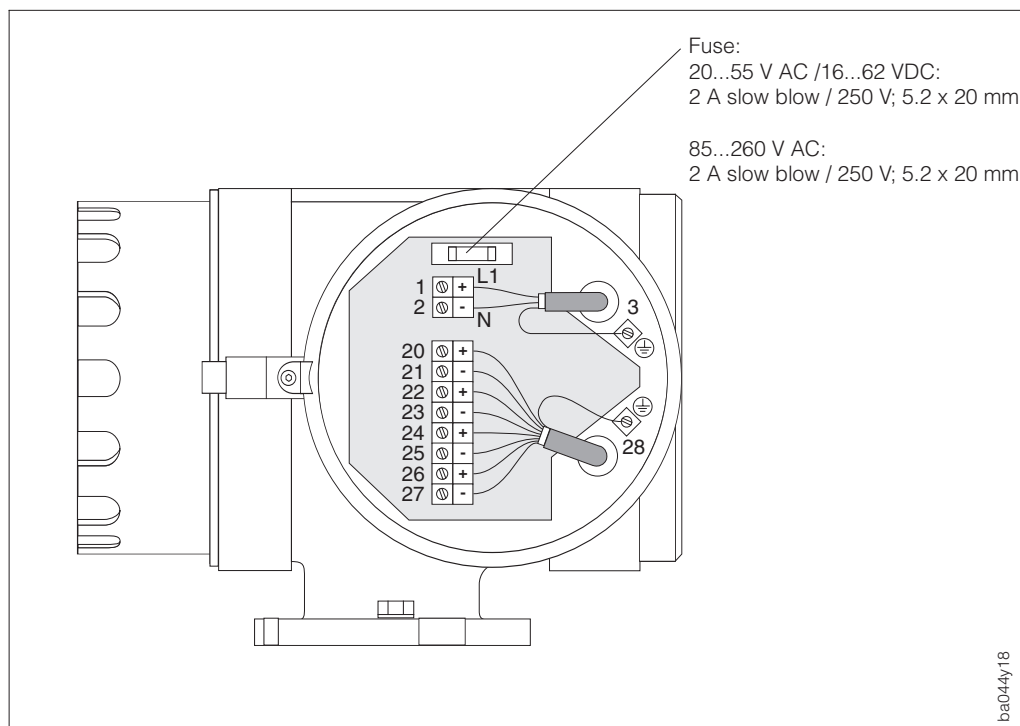

Fig. 30
- The first can be found on the wiring terminal board in the terminal compartment of the DMU 93 transmitter housing (see Fig. 30).